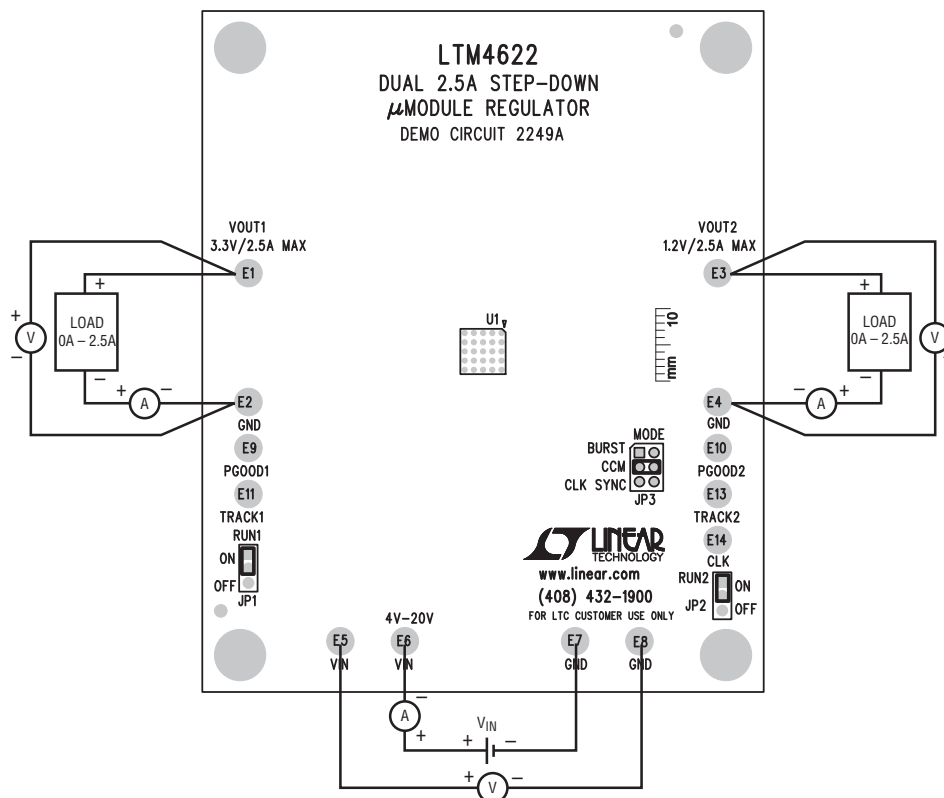

Figure 1. Test Setup
Demonstration Circuit 2249A is an easy way to evaluate the performance of the LTM4622. Please refer to Figure 1 for test setup connections and follow the procedure below.
3. With power off, connect the loads, input voltage supply and meters as shown in Figure 1.